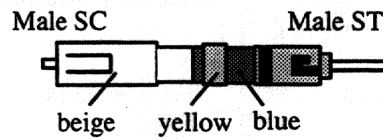

Figure 6-16 Multi-Mode ST to SC Adaptor (Beige Connector, Yellow Band on Blue Body), Male SC to Male ST.
3. *Multi-Mode Fiber SC to ST Adaptor.* Figure 6-16 illustrates the multi-mode SC to ST adaptor. It has a beige male SC connector on one end, a metallic male ST connector on the other end, and a blue body with a yellow band labeled "62.5/125" in the center. (Referred to as "Y" in cable diagrams beginning with Figure 6-21.)